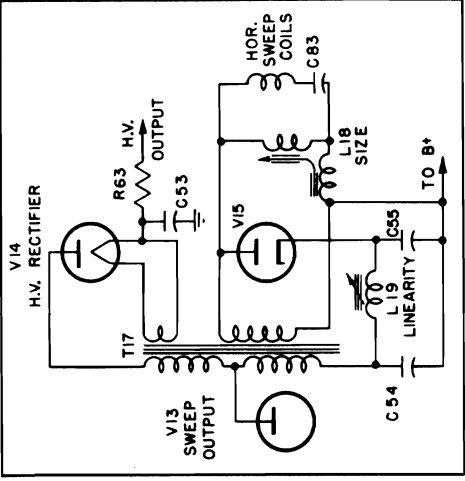

Fig. 8. Horizontal Sweep Output
6. HORIZONTAL SWEEP OUTPUT (SEE FIGURE 8)—The horizontal sawtooth voltage generated by the blocking oscillator, V12B, is shaped and then amplified by a Type 6BG6G tube, V13. The output of this tube is coupled to the horizontal deflection coils, D2, through an impedance matching transformer, T17. The damping tube diode, V15, is used principally to remove a transient oscillation created by the rapid retrace of the current in the high inductance of T17 and still retain the positive overshoot in the primary winding for use in the high voltage supply. It also is used to provide a linear trace and to recover some of the energy from the inductive kick-back and use it to help supply the B+ requirements of the output tube. During conduction of V15, capacitors C54 and C55 are charged up and since they are in series with the B+ voltage to tube V13, they contribute a sizeable portion of the plate voltage. The variable inductance, L19, and C54 constitute a phase shift network which alters the phase of the ripple voltage developed across C55. This means of changing the ripple voltage which also supplies part of the B+ to the output tube provides a method of controlling the linearity.
8. HIGH VOLTAGE SUPPLY (SEE FIGURE 8)—The high voltage for the second anode of the picture tube is derived by making use of the inductive "kick" voltage produced during retrace in the horizontal output transformer, T17. This kick voltage has a magnitude of several thousand volts and is positive-going, appearing between the plate of V13 and ground. Since this voltage in itself is not sufficient to produce the required anode potential, an additional winding connected electrically and magnetically with the primary is added to provide further step-up of this voltage. The top of this autotransformer is connected to the plate of a rectifier tube, V14. This tube is a Type 1B3GT/8016 which derives its filament voltage from the horizontal sweep transformer T17 by a single turn around the core. Since the frequency supplied the rectifier tube is high (15,750 cps), a 500 mmf. filter capacitor is more than adequate to give a smooth d-c output. Due to the small capacity of the filter, this supply is relatively safe to handle.